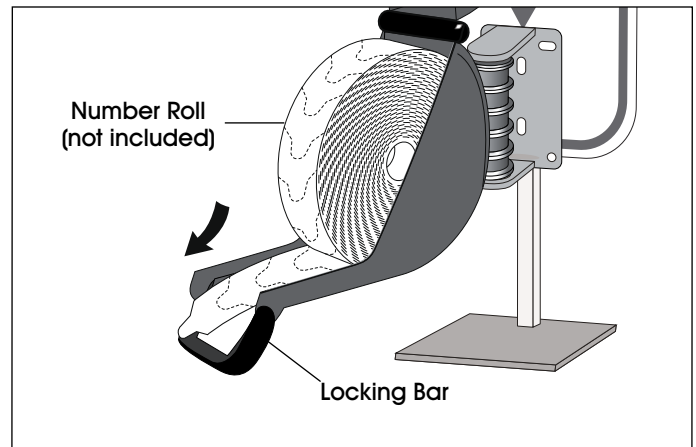

Figure 5
2. Drop in number roll (not included) so the numbers roll out from the bottom. (See Figure 5)